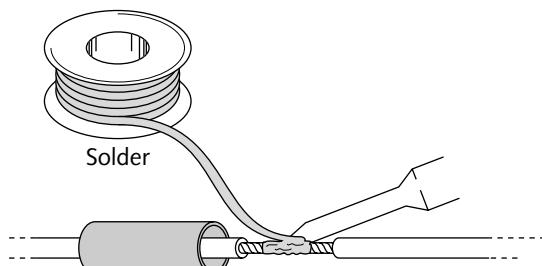

FIGURE 9-5: Twist bare wires together and solder.
4. Twist the wires together and then solder, allowing solder to flow well into the connection—wire must be hot; be patient (see Figure 9-5).